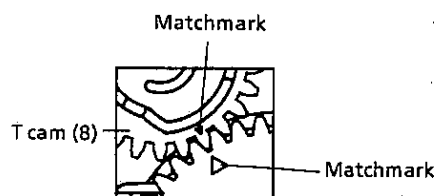

Figure 7-5-13(d)
- 6) Fit the T arm operating lever ass'y (6) to the shaft (3), and insert the pin (6)-a into the groove of T cam (8). (See Figure 7-5-13(e).)